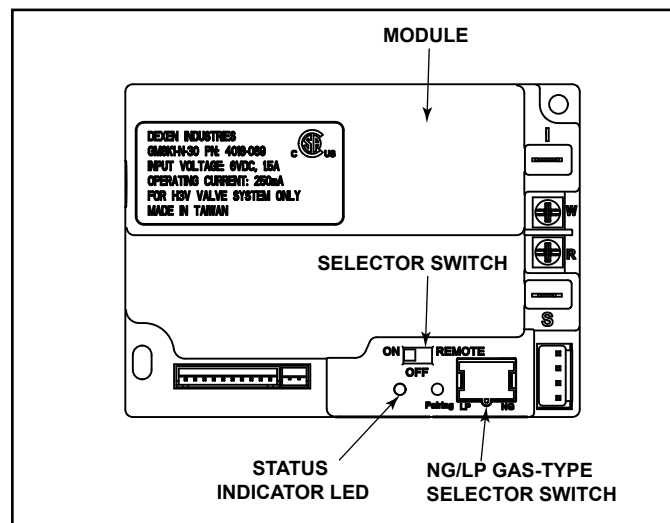

Figure 5.3 Control Module
1. The control module has an ON/OFF/REMOTE selector switch that must be set. See Figure 5.3.
- Locate the module selector switch. (See Figure 5.3).
- Wait five (5) minutes to allow possible accumulated gas to clear.